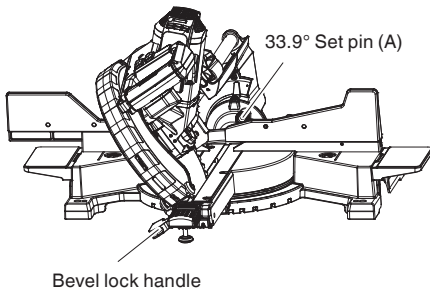

Fig. 28
6. 33.9° Set pin (A) for crown mouldings (Fig. 28)
- (1) Push the bevel set pin (A) in towards the rear of the machine.
- (2) Loosen the bevel locking handle.
- (3) Tilt the cutting head until the set pin (A) stops the bevel angle at 33.9° on the bevel scale.
- (4) Tighten the bevel locking handle to lock the cutting head in position. (see Fig. 28)